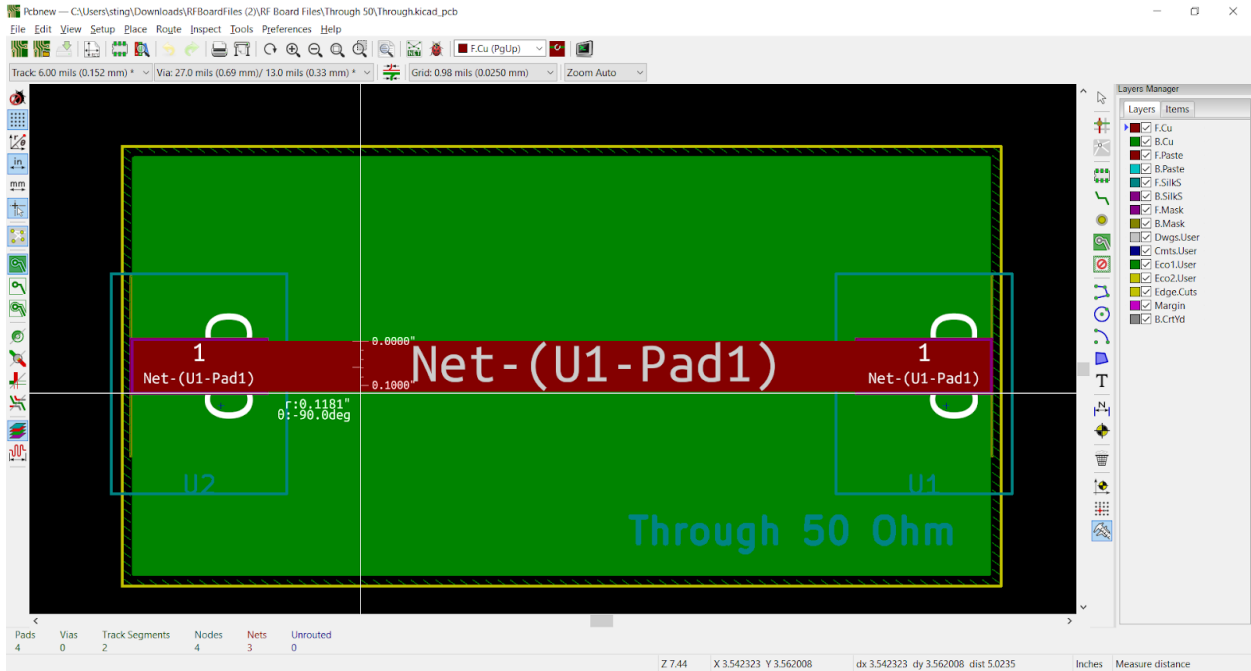
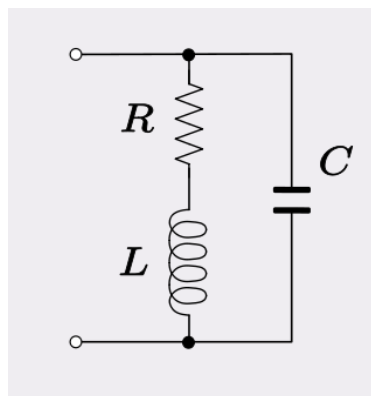

Figure 1: 50 ohm through
Figure 4
1. Figures 1 and 2 depict design files for boards in the lab that are referred to as the "50 ohm through" board and the "40 ohm through" board. The KiCAD files for test boards can be found at the embedded link (to the RF webpage). These boards were built in the OshPark two-layer PCB fabrication process. I've included screenshots of the layouts in Figures 4 and 5.
4. Use a series-to-parallel transformation to find the quality factor of the network in Figure 4 at frequency ω_0 , the natural frequency of the resonant network.